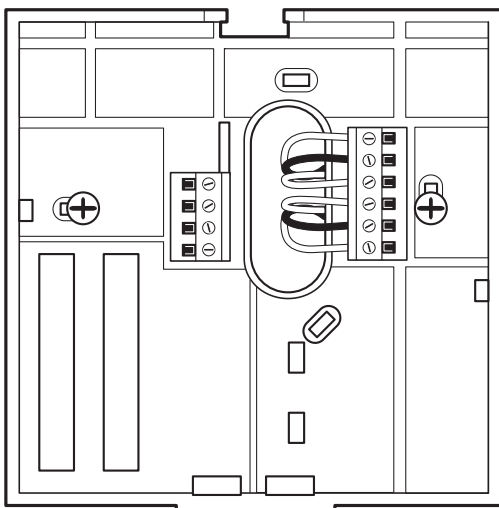

Fig. 3 — Secure Wires to Terminal Strip
- Match and connect equipment wires to proper terminals of the connector blocks (see Fig. 3 and 4). If there are separate 24 vac transformers, one in the indoor unit and one in the outdoor unit, connect the common of each to the C terminal. Remove factory-installed jumper wire from Rc and Rh terminals. Connect the R from the indoor unit to the Rh terminal. Connect the R from the outdoor unit to the Rc terminal. Then the W signal is taken from the Rh power and the Y1, Y/Y2, G and O/B signals are taken from the Rc power.